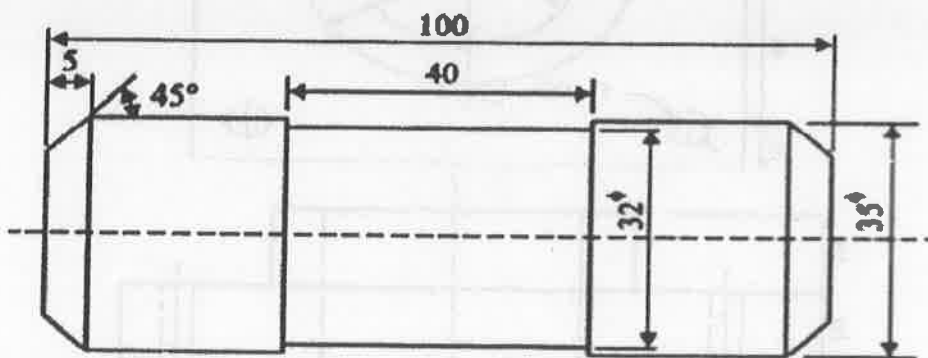

Fig. 15.a
- (ix) Fatigue and setting up time = 6 percent of welding time. (13)
15. (a) A mild steel bar 100 mm long and 38 mm in diameter is turned to 35 mm dia. And was again turned to a diameter of 32 mm over a length of 40 mm as shown in the Fig.15. a. The bar was machined at both the ends to give a chamfer of $45^\circ \times 5$ mm after facing. Calculate the machining time. Assume cutting speed of 60 m/min and feed 0.4 mm/rev. The depth of cut is not to exceed 3 mm in any operation.